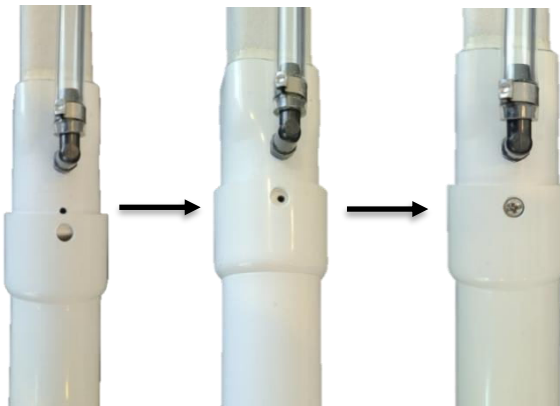

Figure 20, Diffuser Assembly, Part Two
3. Slide ballast tube onto bottom of diffuser section with a slight back and forth twisting motion until the small hole on diffuser section is in the center of the large hole in ballast tube. Insert screw and tighten until screw head is flush. Repeat process for attaching float tube to top of diffuser. See Figure 20.